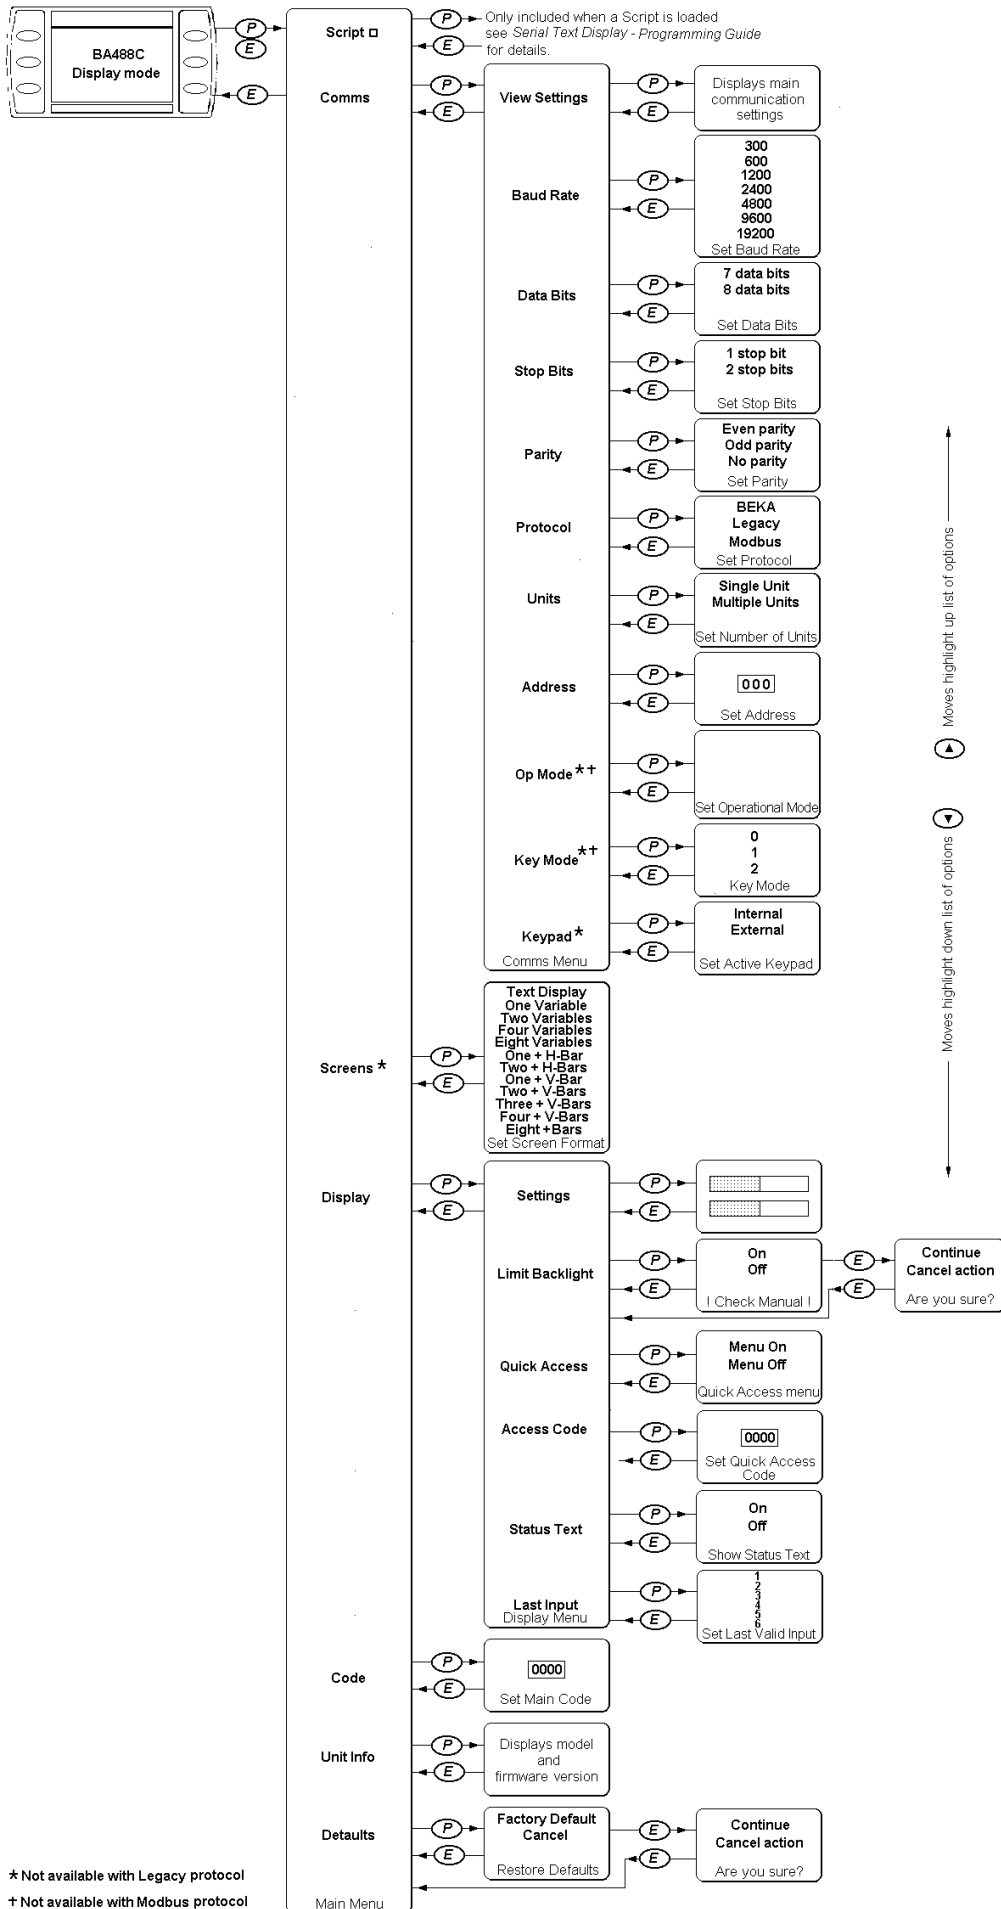

Fig 10 Structure of Configuration Menu
The BA488C is configured via four of the front panel push-buttons. All the configuration functions are contained in an easy to use menu shown in Fig 10. Where necessary the sub-menus contain on-screen prompts to guide the user through each adjustment.
This section provides a brief explanation of each configurable function and should be read in conjunction with Fig 10.
Structure	Fig 10
4. To set the instrument's basic communications parameters enter the configuration menu by pressing the *P* and *E* push-buttons simultaneously. Fig 10 shows the menu structure and navigation.